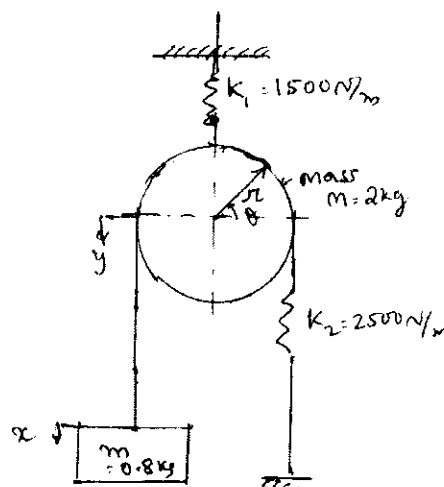

Fig. Q2 (c)
- c. Using energy method, determine the natural frequency of the system shown in Fig. Q2 (c). Assume the cord to be unextensible and there is no slip. (07 Marks)